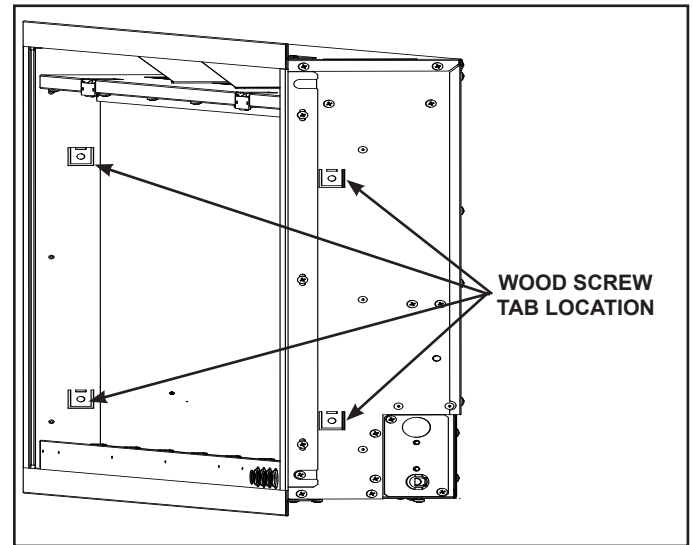

Figure 4.3 Securing the Appliance in 2 X 6 Framing
6. Once leveled, plum, and flush secure with four (4) ST4X40 screws at the tabbed locations. See Figure 4.3.